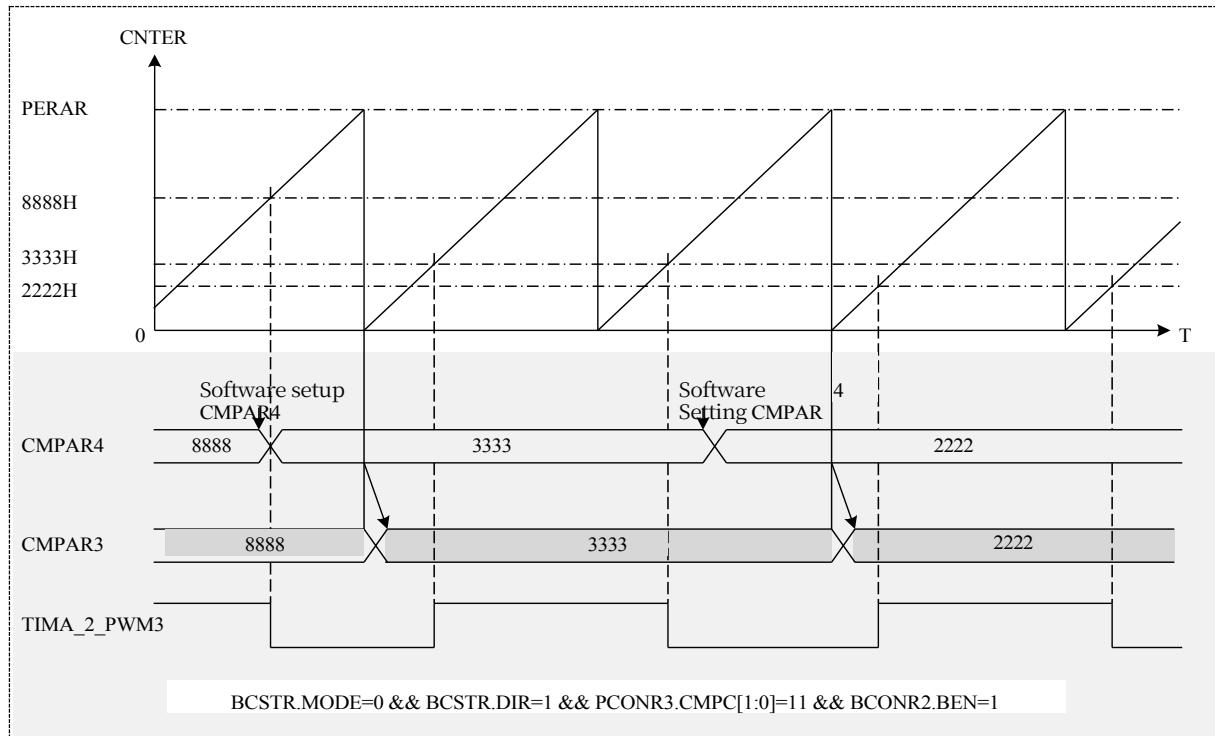

Figure 21-8 Cache Action in Sawtooth Wave Mode
- e) Zero clearing occurs in hardware counting mode or sawtooth wave counting mode Figure 21-8 below shows the cache transfer schematic for Unit 2 sawtooth wave mode.